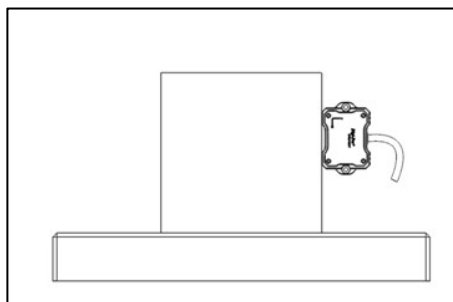
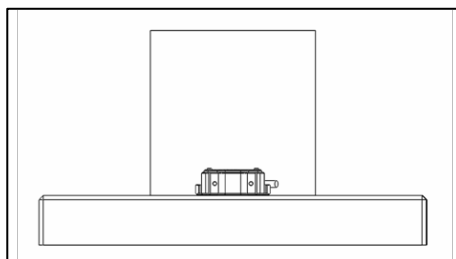

Figure 37. Tilt Sensor Module Position of Calibration Step 3
Figure 42. Tilt Sensor Module Position of Calibration Step 8
- Locate the sensor module as following Figure 37. The sensor is ready for user to perform calibration step 1.
9. For **DWL5000XY** model, repeat step 3 to step 8. Please locate the sensor module in following positions (refer to Figure 37 to Figure 42) respectively.